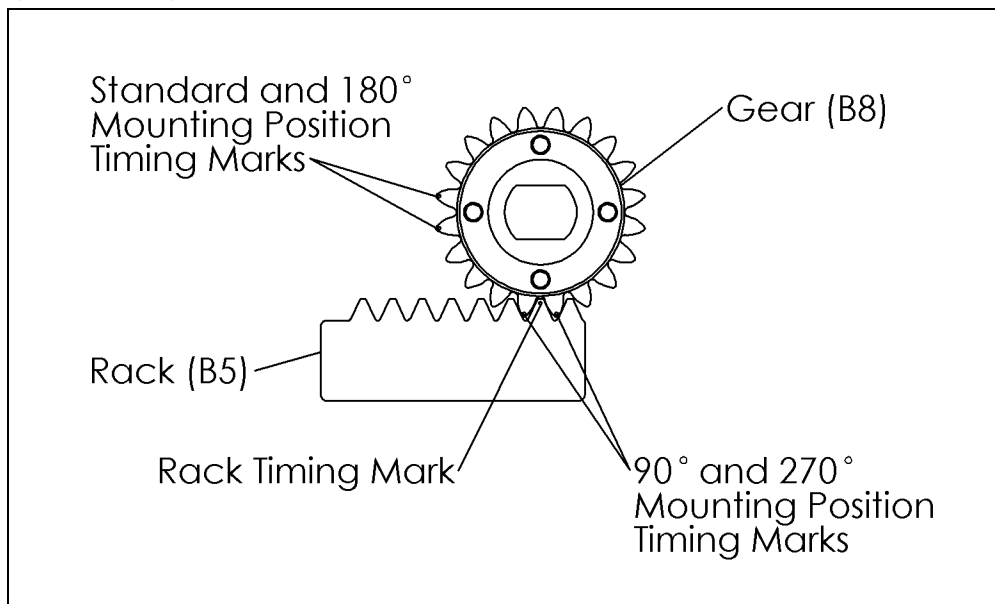

Figure 8 – 90° and 270° Mounting Position Gear and Rack Alignment
- b. Slide the gear (B8) out of the actuator assembly, rotate clockwise 90° and install the gear with the 90° and 270° mounting position timing marks lined up with the timing mark on the rack (B5) (See Figure 8).
- c. Slide the gear (B8) out of the actuator assembly, rotate clockwise 90° and install the gear with the 90° and 270° mounting position timing marks lined up with the timing mark on the rack (B5). (See Figure 8).